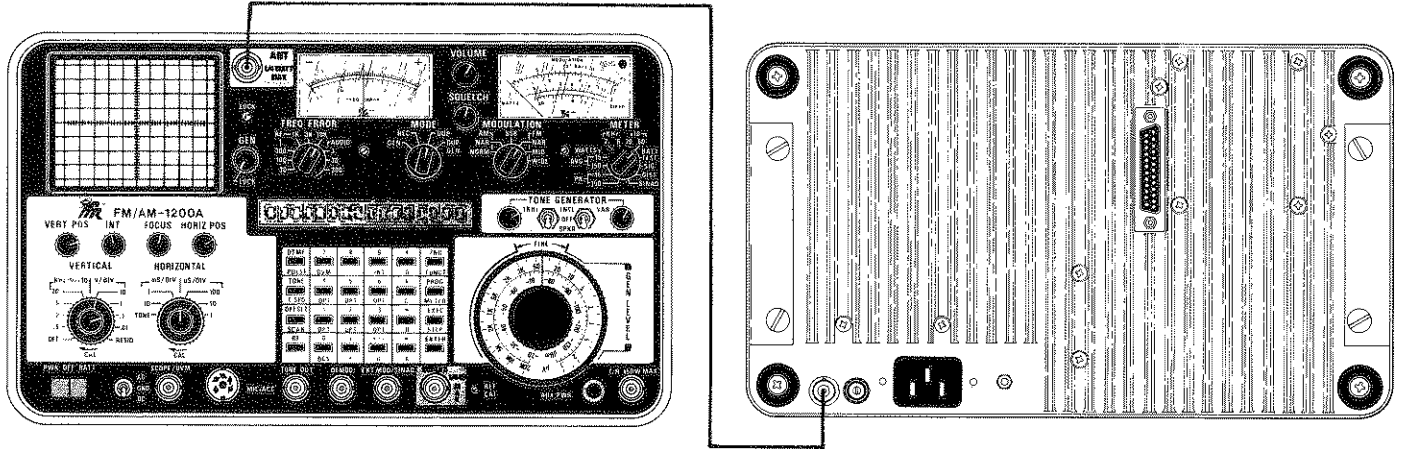

Figure C-1 Performance Test Set-Up Diagram
| 2. | Connect 2-foot length of 50Ω coaxial cable between ANT Connector (34) and External Reference Connector (46) as shown in Figure C-1. |